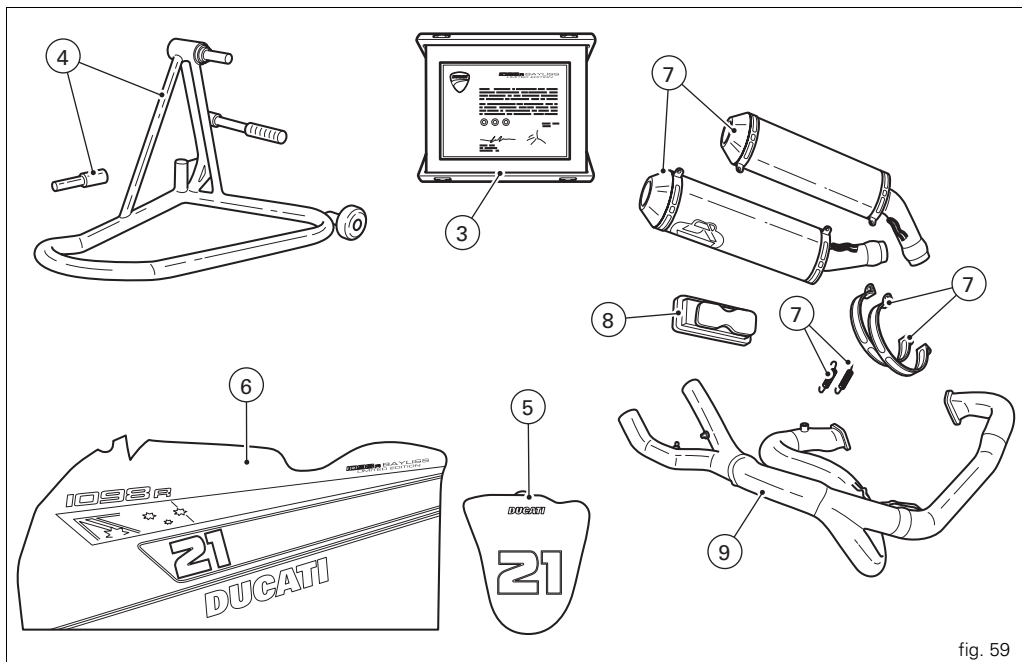

fig. 59
- numbered identification plaque (3, fig. 59);
- rear paddock stand (4, fig. 59);
- bag (5, fig. 59);
- bike cover (6, fig. 59);
- carbon fibre silencers (7, fig. 59);
- dedicated ECU (8, fig. 59);
- central exhaust pipe (9, fig. 59).